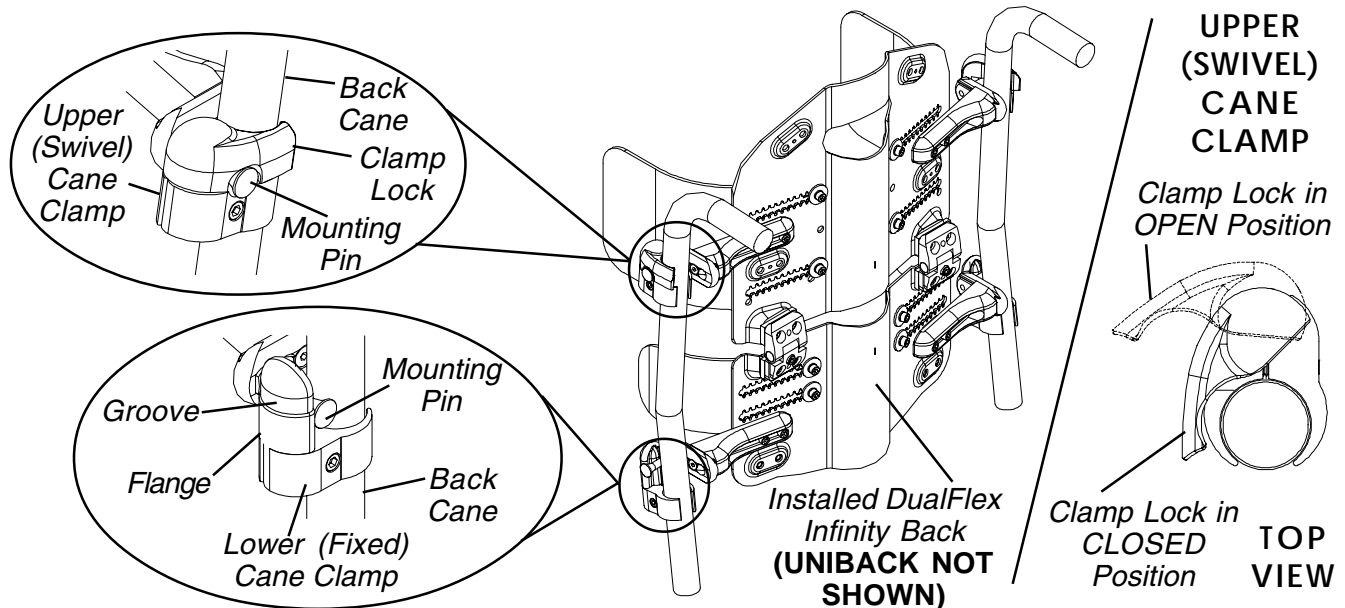

FIGURE 1 - INSTALLING/REMOVING THE INFINITY BACK
1. Twist the upper (swivel) cane clamp locks in the open position to release the upper mounting pins (**FIGURE 1**).